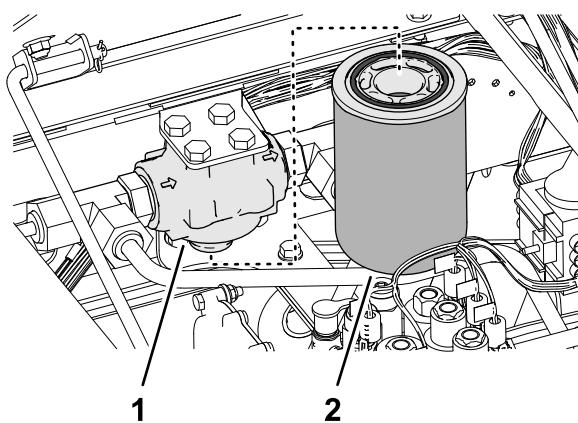

Figure 152
3. Clean the area around the charge filter and filter head (Figure 152).